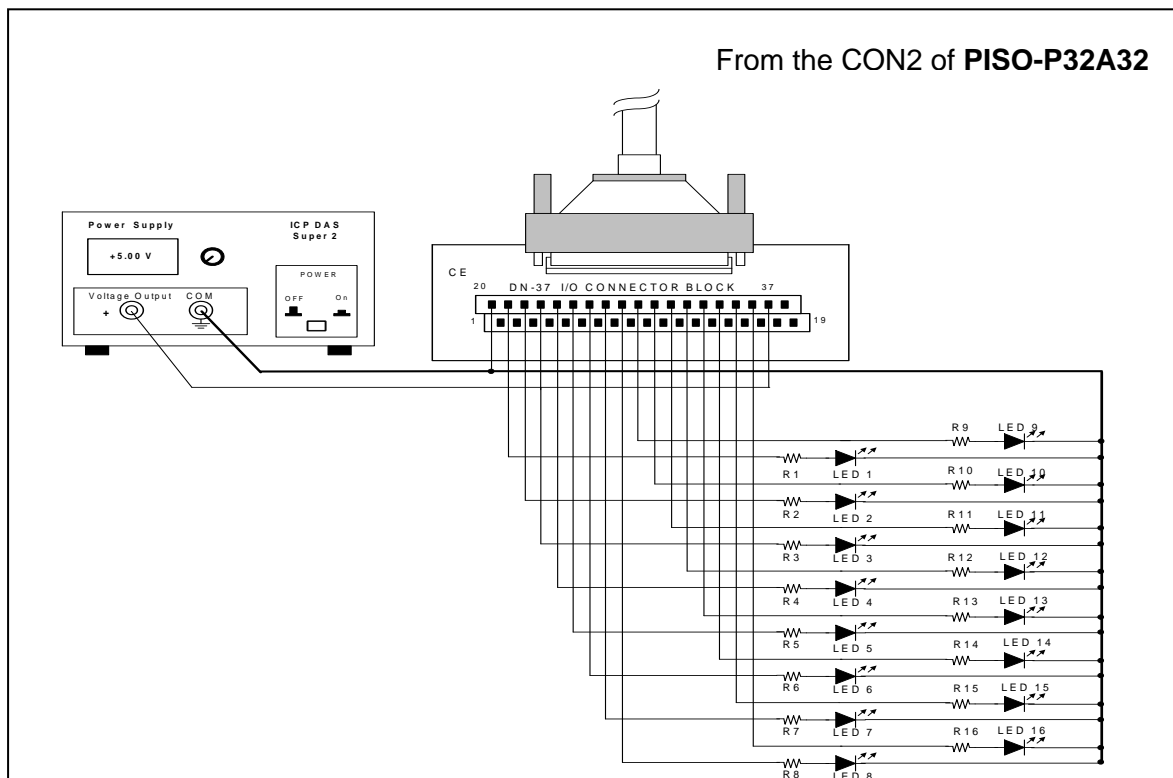

Figure 4-1-5. The circuit diagram of external device 2 for the digital outputs of PISO-P32A32/P32A32-5V
- Figure 4-1-5(PISO-P32A32) shows the circuit diagram of external device 2